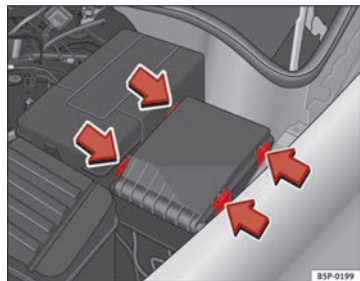

Fig. 181 Fuse box cover in engine compartment
- Prise off the fuse cover in the engine compartment by pressing the tabs towards the centre of the cover ⇒ fig. 181.